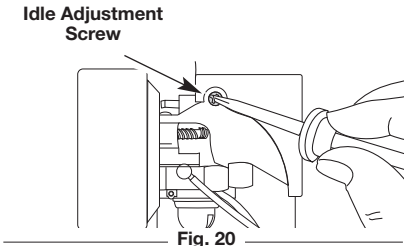

Fig. 20
2. Release the throttle trigger and let the engine idle. If the engine stops, insert a small phillips in between the Air Filter Cover and the Engine Cover (Fig. 20). Turn the idle speed screw in, clockwise, 1/8 of a turn at a time (as needed) until the engine idles smoothly.